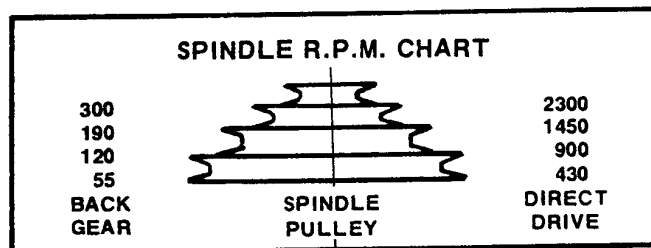

FIGURE 9
4. Shift belt to position for speed desired, as indicated on spindle speed chart (Figure 9).